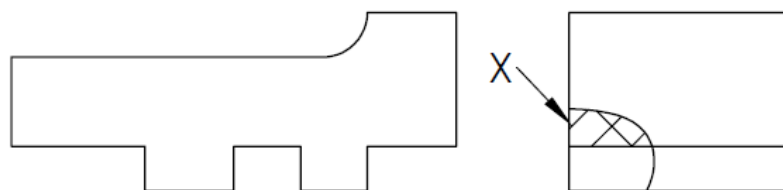

Figure 2.2
- c) What is the name of the view indicated by X in the above Figure 2.2?